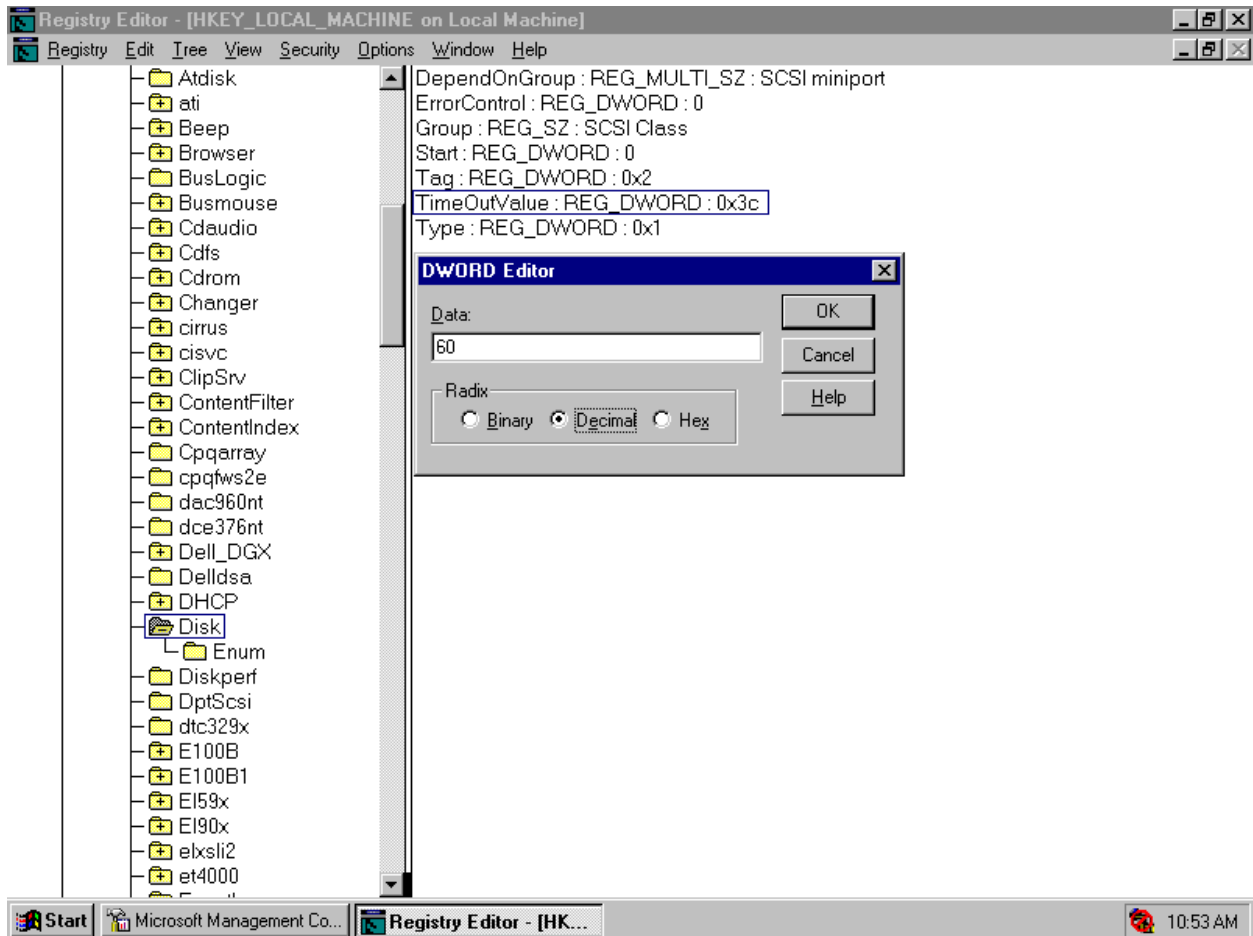

Figure 2.4 Verifying/Setting the Disk I/O TOV Using the Registry Editor
Verify the disk I/O TOV using the Registry Editor as follows (see Figure 2.4):
2. Display the disk parameters as follows: go to **HKEY\_LOCAL\_MACHINE** → **SYSTEM** → **CurrentControlSet** → **Services** → **Disk** (see Figure 2.4).